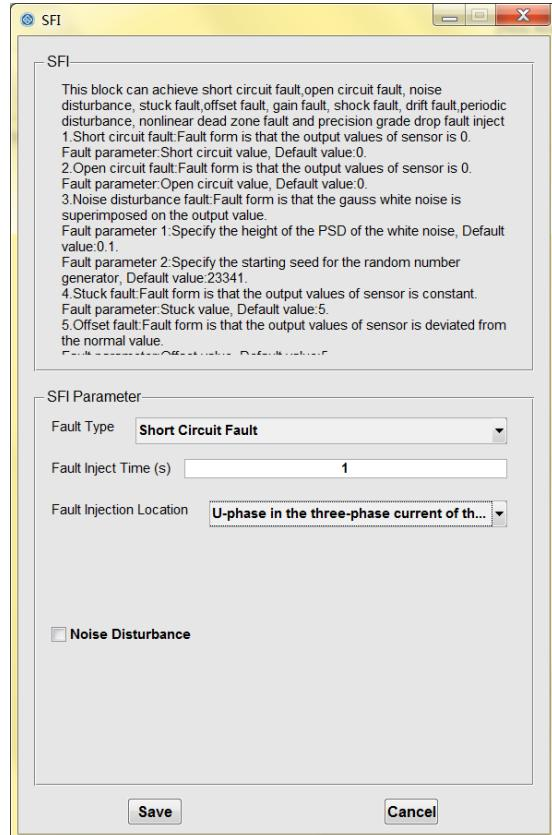

Fig. 53 Fault parameter setting
- ④ Select the short circuit fault (Short Circuit Fault), set the fault injection time to 1s, the fault injection location is ‘U-phase in the three-phase current of the inverter’, click on ‘Save’ and wait a minute, as shown in Fig. 53.